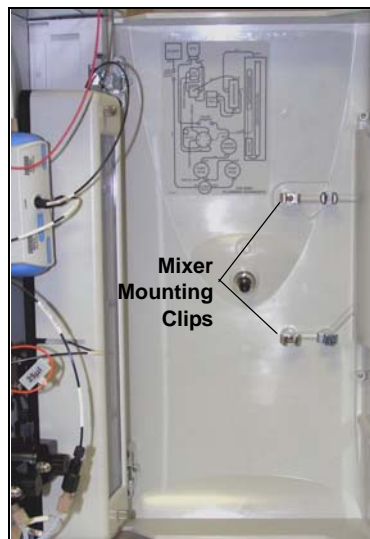

Figure B-68. Location of Mounting Clips for the EGC CO₃ Mixer
2. Install the larger diameter clips (P/N 063642) (see Figure B-68).